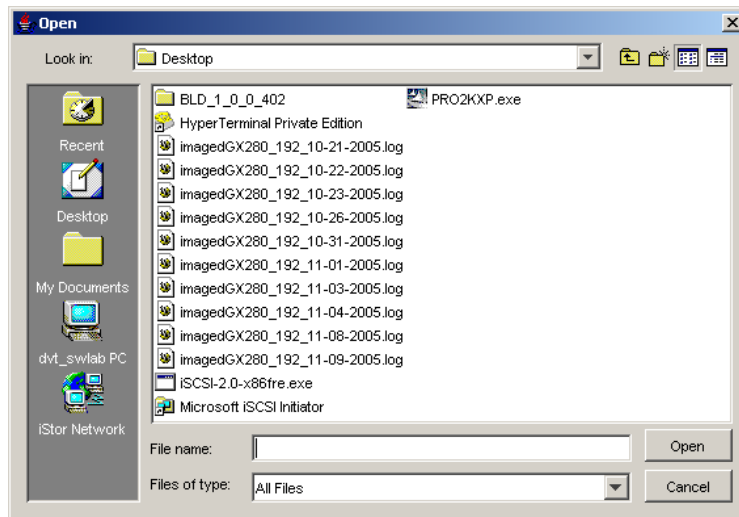

Figure 5-48. Open Dialog Box
2. On the **View** menu, click **Save Event Log Messages**. The Open dialog box appears (see Figure 5-48).